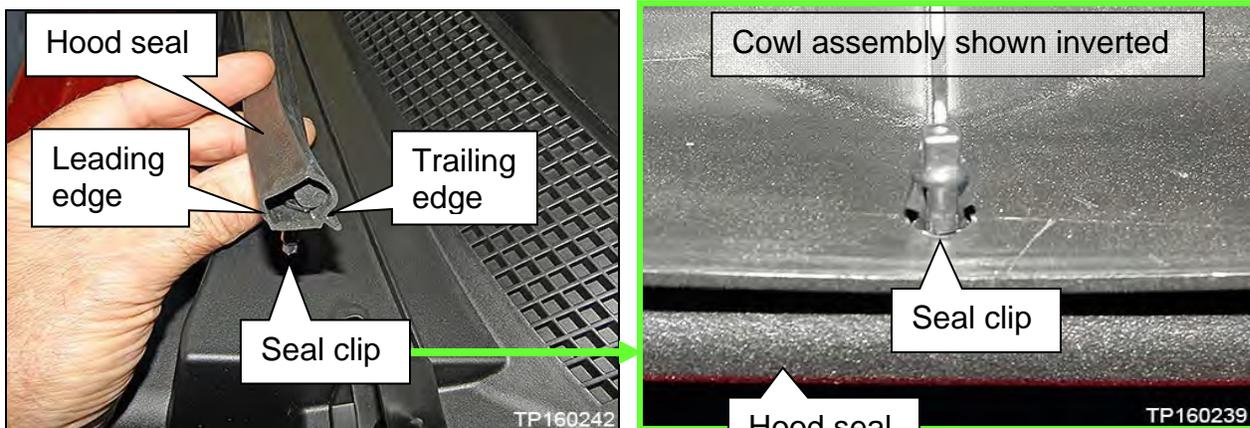

Figure 8
8. Remove the hood seal from cowl cover assembly (Figure 8).
- Detach Ten (10) clips.
**IMPORTANT:** The seal has a leading and trailing (front and back) edge. Note the seal orientation (Figure 8) before removal.